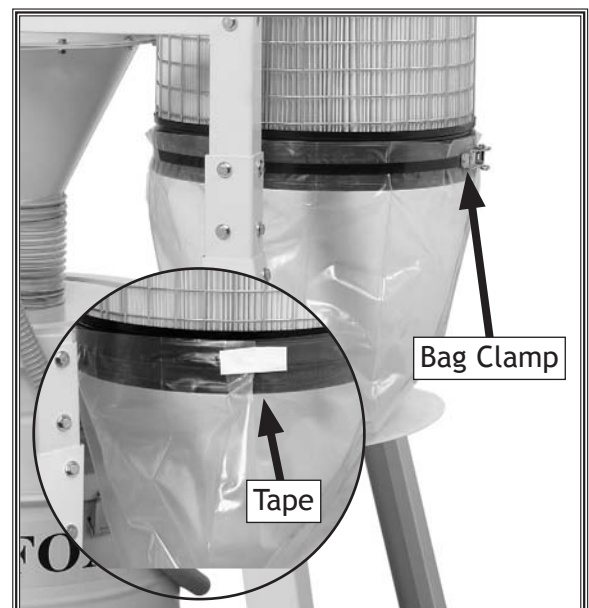

Figure 30. Canister bag installed.
28. Remove the bag clamps from the bottom of the canisters, position the plastic canister bags around the canister bottoms, then secure them with the bag clamps, as shown in **Figure 30**.
Note: To make this process easier, use tape to hold the bags in place before securing them with the clamps, as shown in **Figure 30**.